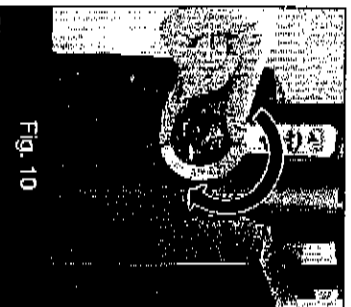

Fig. 10
- Turn the knob clockwise to turn the water heater "off" (Fig. 10). The resulting output water temperature will be the same temperature as your source water.